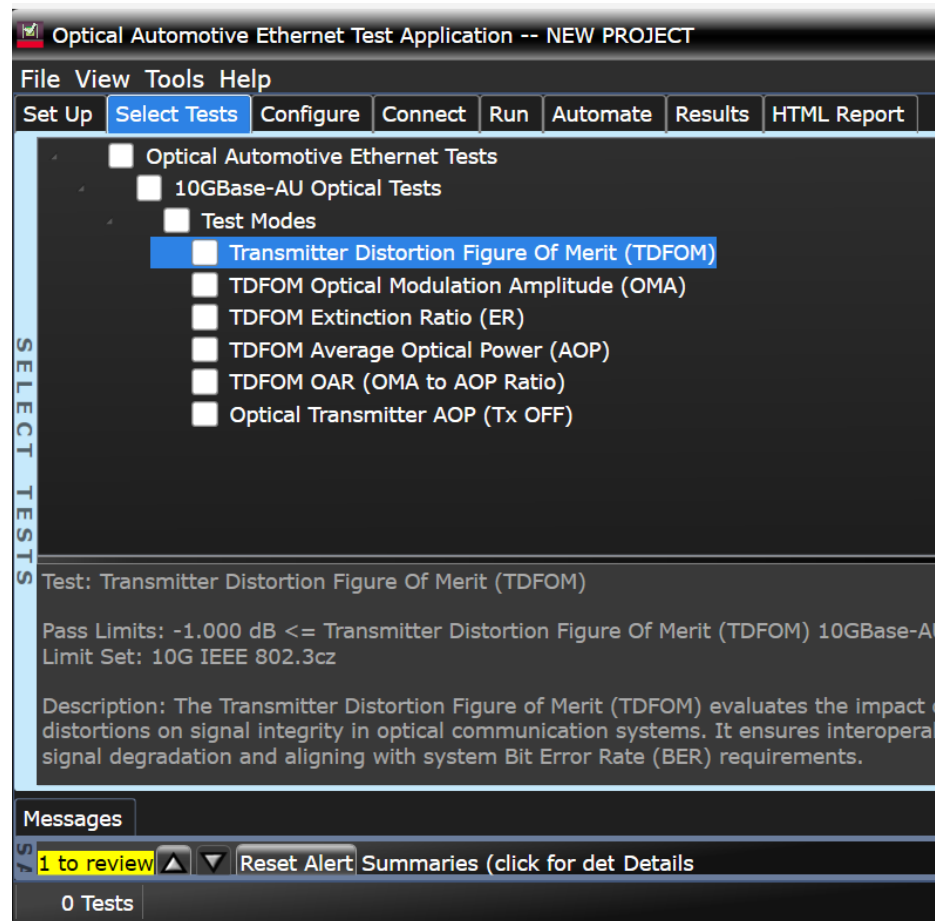

Figure 2-20 Select Tests Tab
- 2 In the **Select Tests** tab, as shown in Figure 2-20, select one or more tests. the available tests appear based on the configuration performed in the **Set Up** tab.